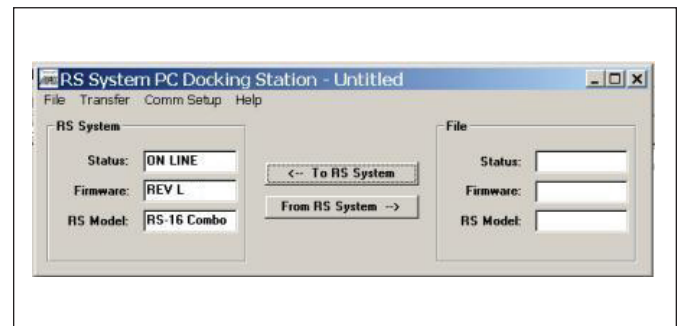

Figure 9. PC Docking Application Main Dialog Box
- On your computer, start PC Docking application. From the **Start** menu, select **Programs > Aqualink RS System Simulation > PC Dock**. Figure 9 illustrates the PC Dock application in an AquaLink RS16 combination system with firmware Revision L.